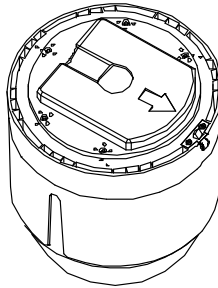

Figure 2-16 Remove the Bracket
- 2). Remove the in-ceiling bracket as shown in Figure 2-16.